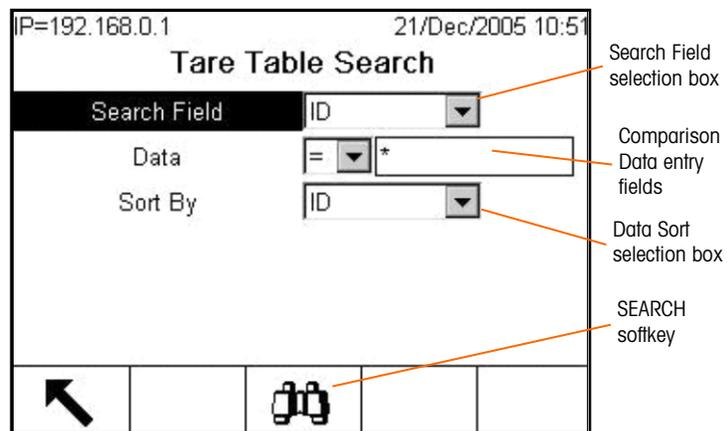

Figure 2-38: Tare Table Search Screen
2. To select a sub-set of records from the table, press the TABLE SEARCH softkey . The Search Screen for the selected report type displays (see Figure 2-38).